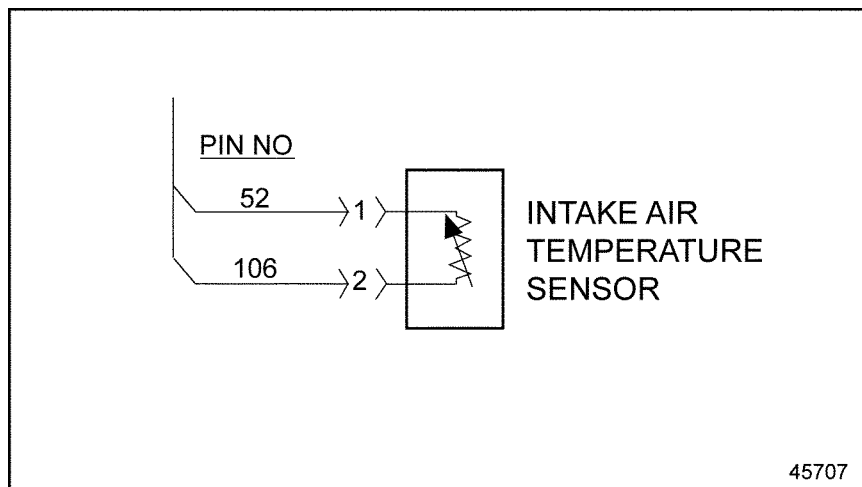

Figure 37-1 Intake Air Temperature Sensor Wiring
2. Measure the resistance across pins 1 and 2 of the sensor (see Figure 37-1).